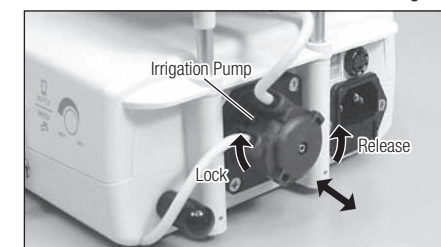

Fig. 38
- 5) Turn the Irrigation Pump counterclockwise until it clicks. Pull out. Align the replacement Irrigation Pump with the drive shaft at the same released position and turn clockwise until it clicks. (Fig. 38)